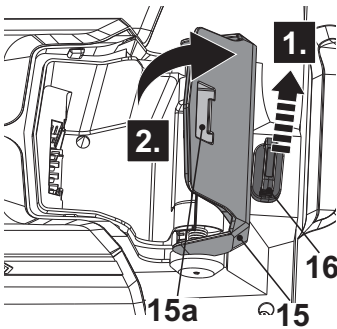

Fig. 8
1. Remove the safety key (16) and keep it avoid loss (Fig. 8, step 1).
2. Hold the groove (15a) and open the battery cover (15) (Fig. 8, step 2).